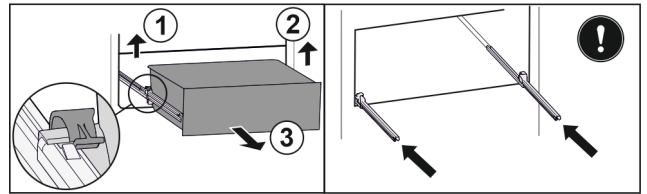

Fig. 117
- Lift left clamp and simultaneously pull drawer forwards on the left. Fig. 117 (1)
- Lift right clamp and simultaneously pull drawer forwards on the right. Fig. 117 (2)
- Remove drawer to the front. Fig. 117 (3)